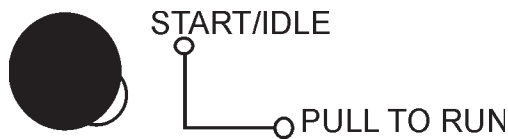

Figure 71. Engine Throttle Control (Low)
2. Place the **engine throttle control** in the "LOW" position (Figure 71).